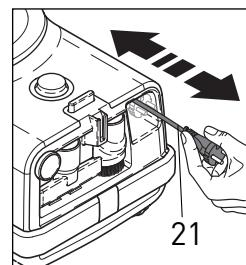

Figure 3
2. Grasp the plug and pull the power cord (21) out from the power cable recess (figure 3). The power cord should be unwound from the cable reel at least two thirds of its length or approx. twenty-five feet. Do not over extend the cord. **DO NOT PLUG INTO POWER SOURCE UNTIL STEP 3 BELOW.**